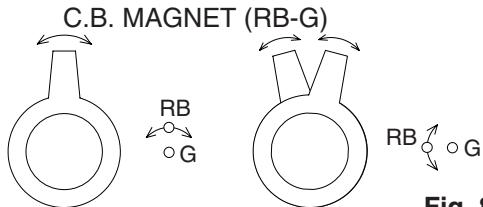

Fig. 8
2. Align red / blue with green dots at the center of the screen by rotating (RB-G) C.P. Magnet. (See Fig. 8)